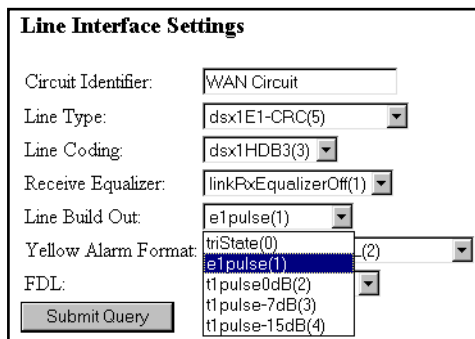

Figure 40. Line Build Out pull-down menu with e1pulse(1) selected
- From the *Line Build Out* pull-down menu (figure 40) select *e1pulse(1)*.